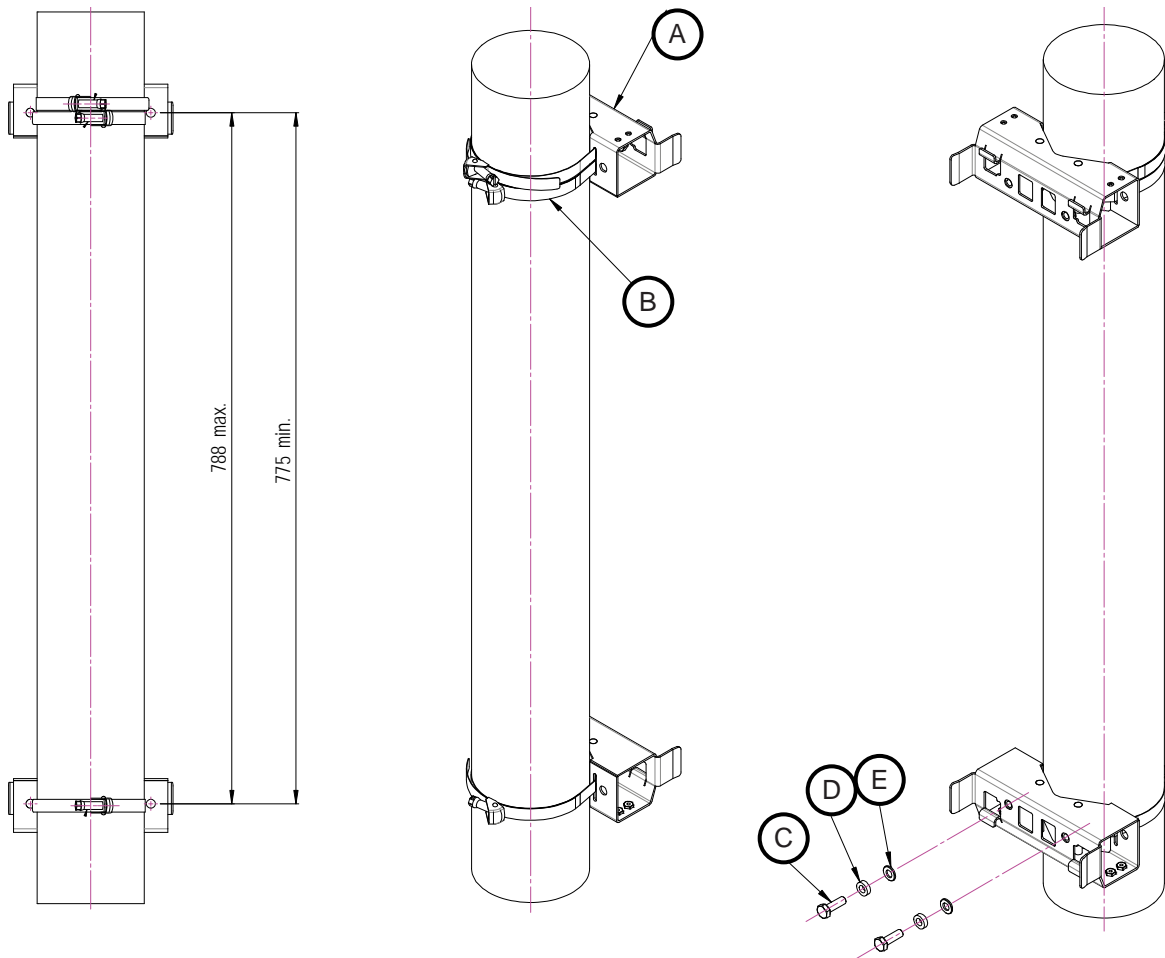

figure 4-3 Pole mounting
1. Use two screw bands (B) for the upper and one for the lower bracket to fasten the two brackets (A) to the pole.
**F Note:** When fastening the brackets make sure that they are installed congruently and not at an angle to each other. To determine the distance between the clamps refer to figure 4-3 Pole mounting - pitches.
3. Hang the Extension Unit into the upper bracket, insert it into the lower bracket, and fasten it to the lower bracket with the M8x25 screws (C), split lock washers (D) and washers (E), see chapter 4.2.4.